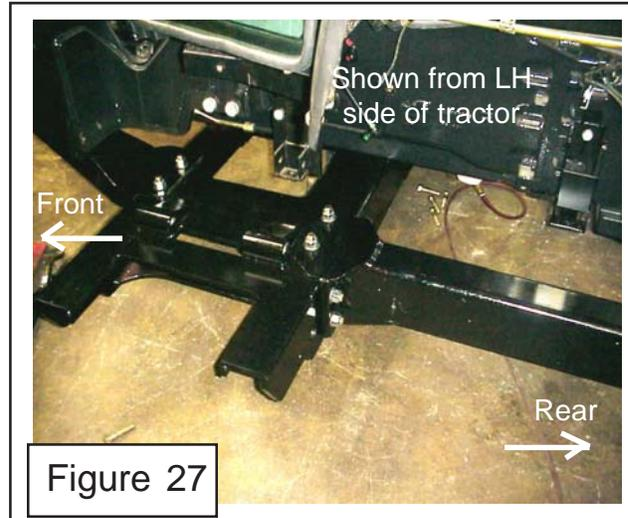

Figure 27
**IMPORTANT NOTE:** When bolting the center frame up to the front and rear frame mounting rails the bolts on the RH turret side must have the bolts installed from the bottom with the bolt heads on bottom under center under frame and the nuts on top (See Figure 27 showing nuts on top). The reason the nuts must be on top is so the bolts will not hit the swing cylinders when the turret assembly has been mounted. The Bolts that are used to mount center frame are not the same length. The 8 bolts for the rear frame bracts (bolts that face the rear of the tractor) will be 3/4" X 3-1/2" long. The other twelve bolts will be 3/4" X 2-1/4" long. All 20 Bolts that are used to mount center frame **MUST** have hardened flat washers install on both sides, one under Bolt Head and one under Nut (See Figure 26 & 27)
Using floor jacks (or Fork lift) position the center frame weldment up under the tractor (See Figure 27). The center frame weldment will bolt to the front and rear mounting rails on both sides. Make Certain to use hardened flatwashers on all 3/4" and 20 mm bolts, when using nut on bolts it will need two hardened washers, one on each side (See Figure 27) . Double check the frame mounting bolt tightness.